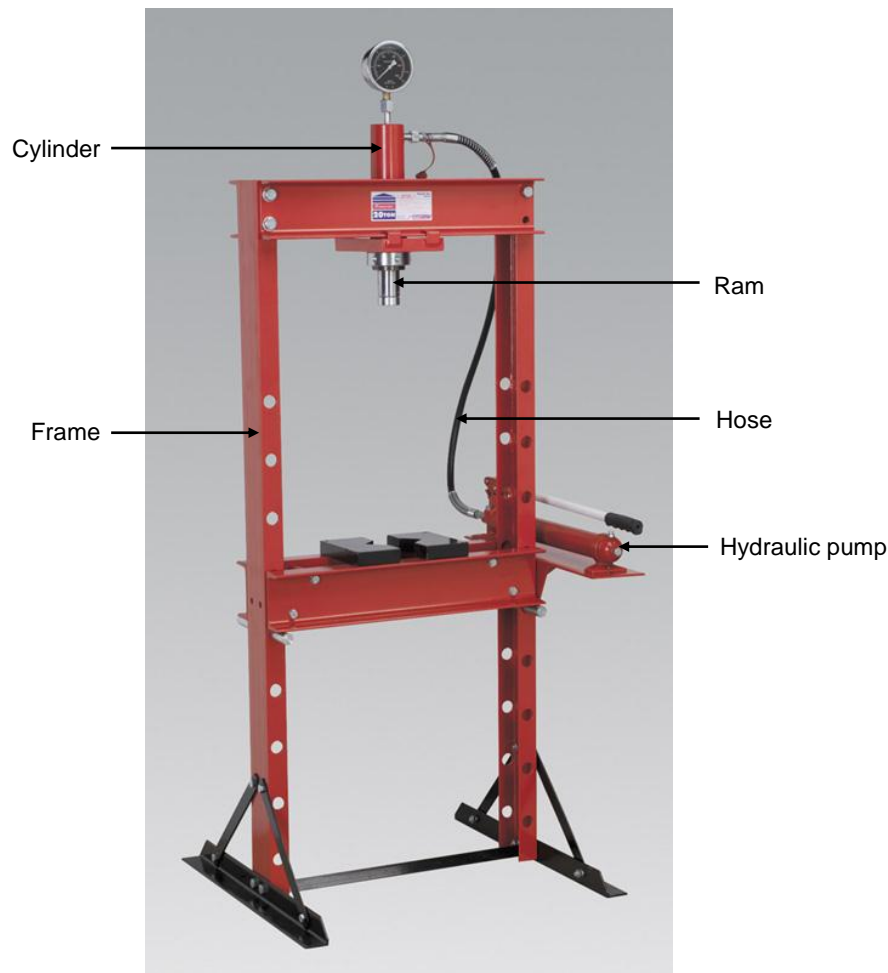

FIG 1.
- B. The press normally consists of a frame, a hydraulic cylinder and a hydraulic pump. (Fig 1)